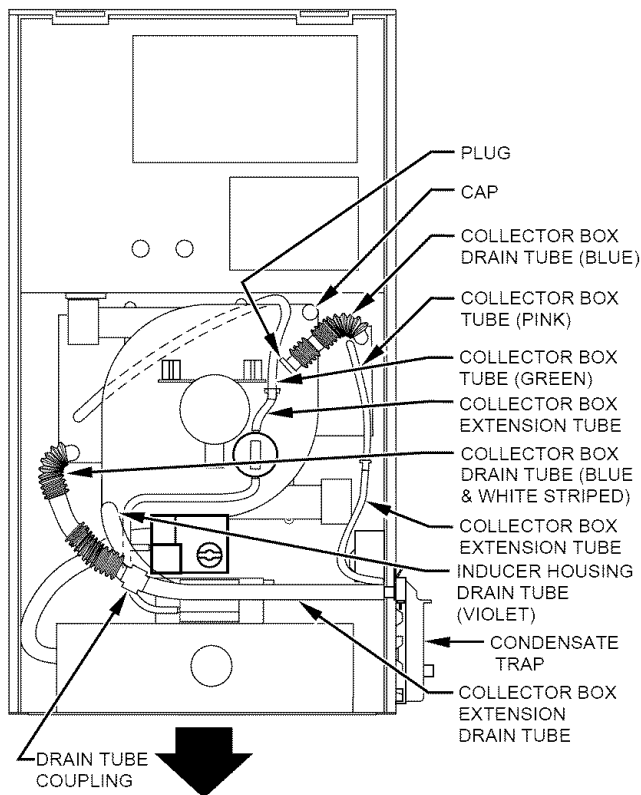

Fig. 9—Downflow Tube Configuration (Right-Hand Trap Installation)
- (c.) Route extended collector box drain tube directly from collector box drain to condensate trap as shown in Fig. 9.
- (a.) Route inducer housing drain tube (violet label) directly from inducer housing to condensate trap as shown in Fig. 9.